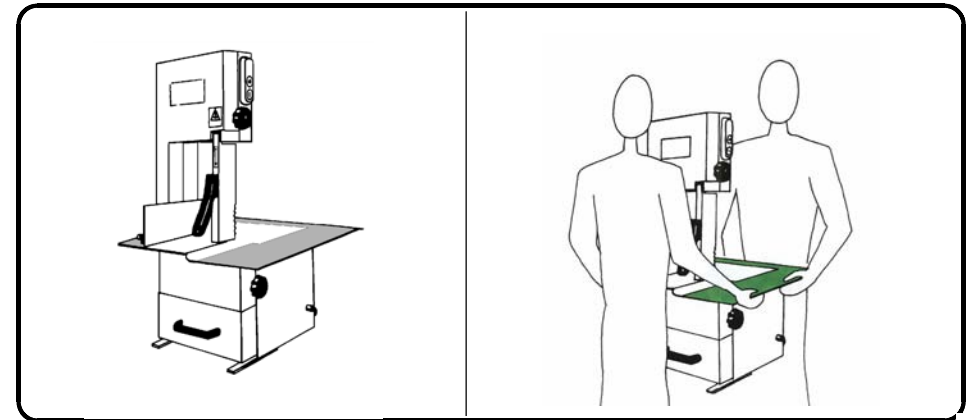

Fig. 3.3.1
- Two people are at least necessary to move the machine and they have to catch it from working surface (Fig. 3.3.1) - it weights 55 Kgs.